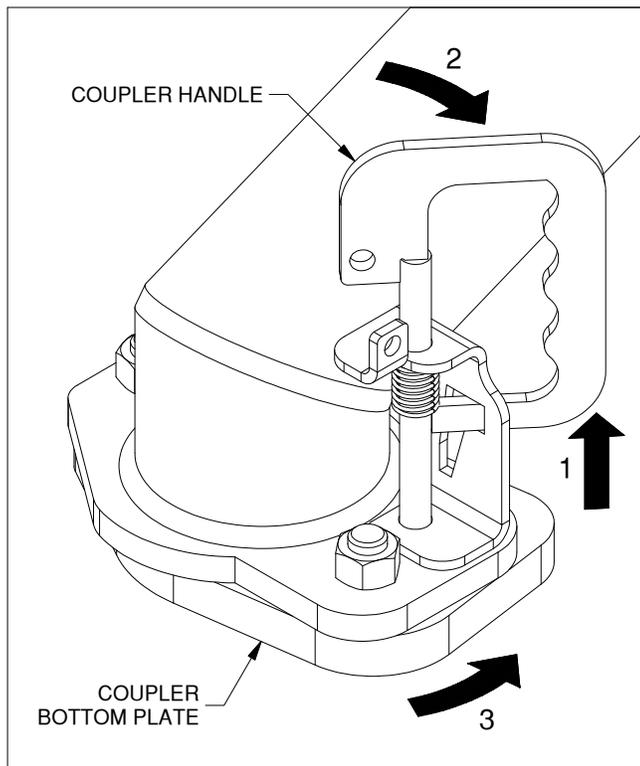

FIGURE B1: Coupler in "open" position
1. Set the coupler to the "open" position. To do this, (1) grip the handle and pull straight up about 1", (2) rotate the handle clockwise until it stops, then release. (3) Rotate the coupler bottom plate counter-clockwise until it stops. See figure B1.
2. Set the coupler to the "open" position. To do this, (1) grip the handle and pull straight up about 1", (2) rotate the handle clockwise until it stops, then release. (3) Rotate the coupler bottom plate counter-clockwise until it stops. See figure B1.